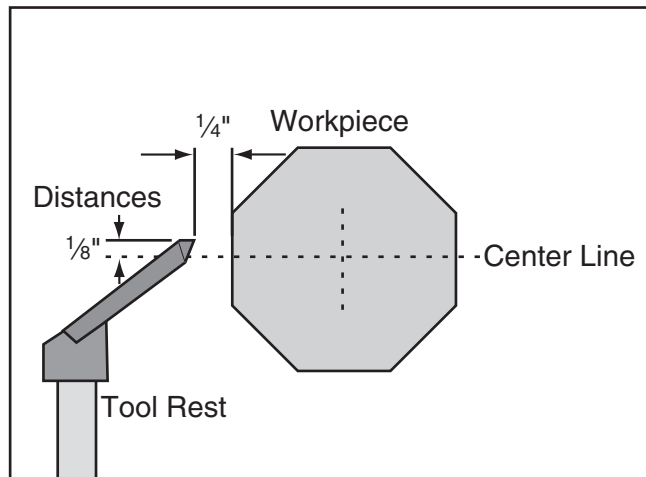

Figure 38. Tool rest position.
- Position the tool rest approximately $\frac{1}{4}$ " away from the workpiece and approximately $\frac{1}{8}$ " above the center line, as shown in **Figure 38**.